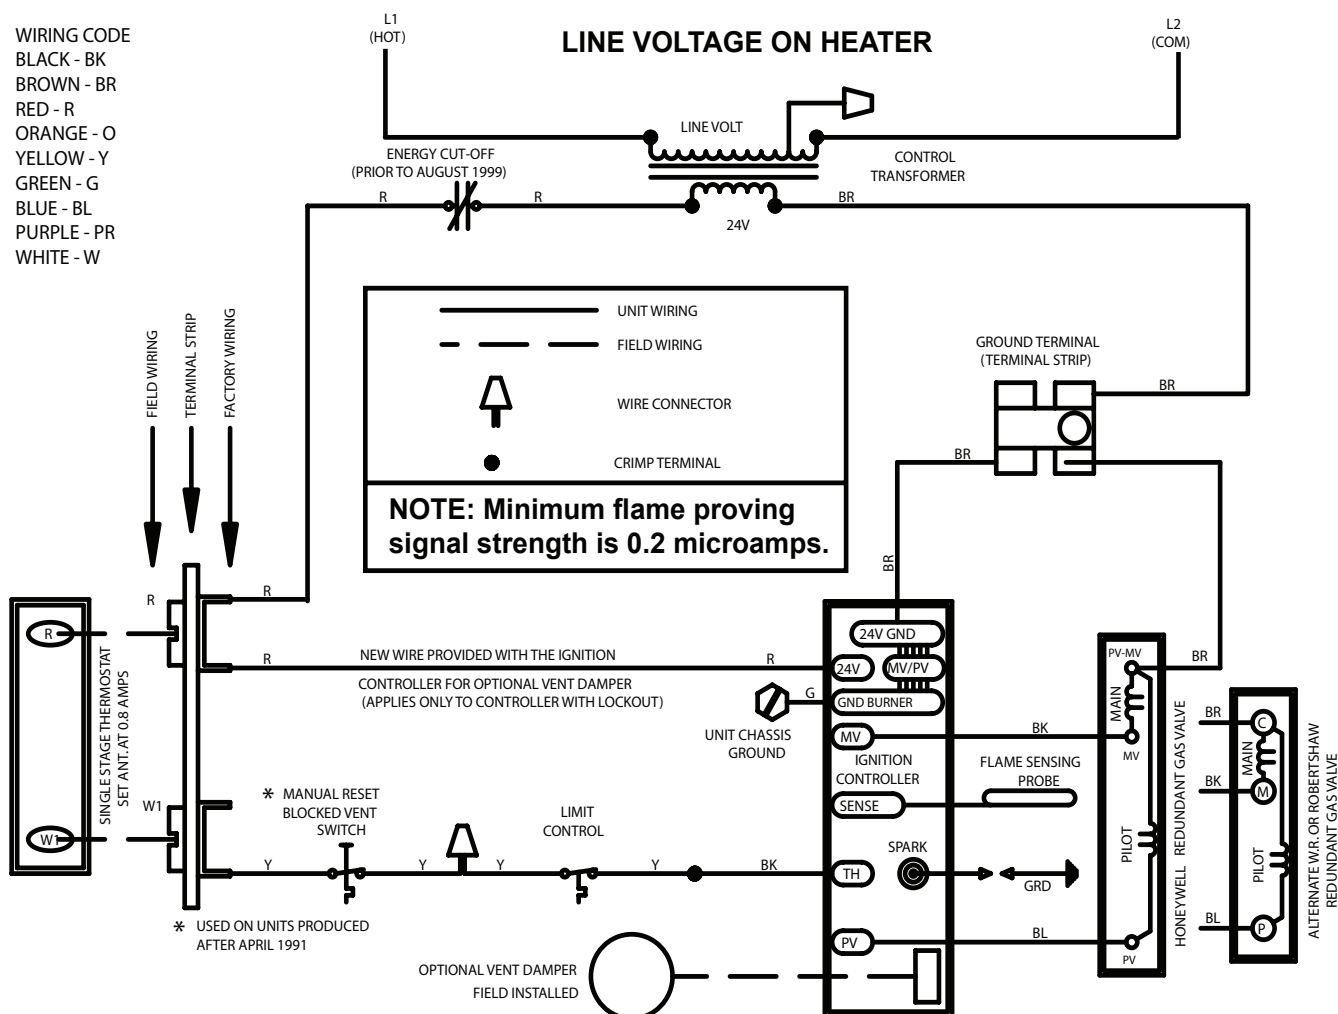

Figure 43. Typical Spark Pilot (*with* or *Without* Lockout) Single-Stage Wiring Diagram
6. Connect wiring in accordance with Figure 43: